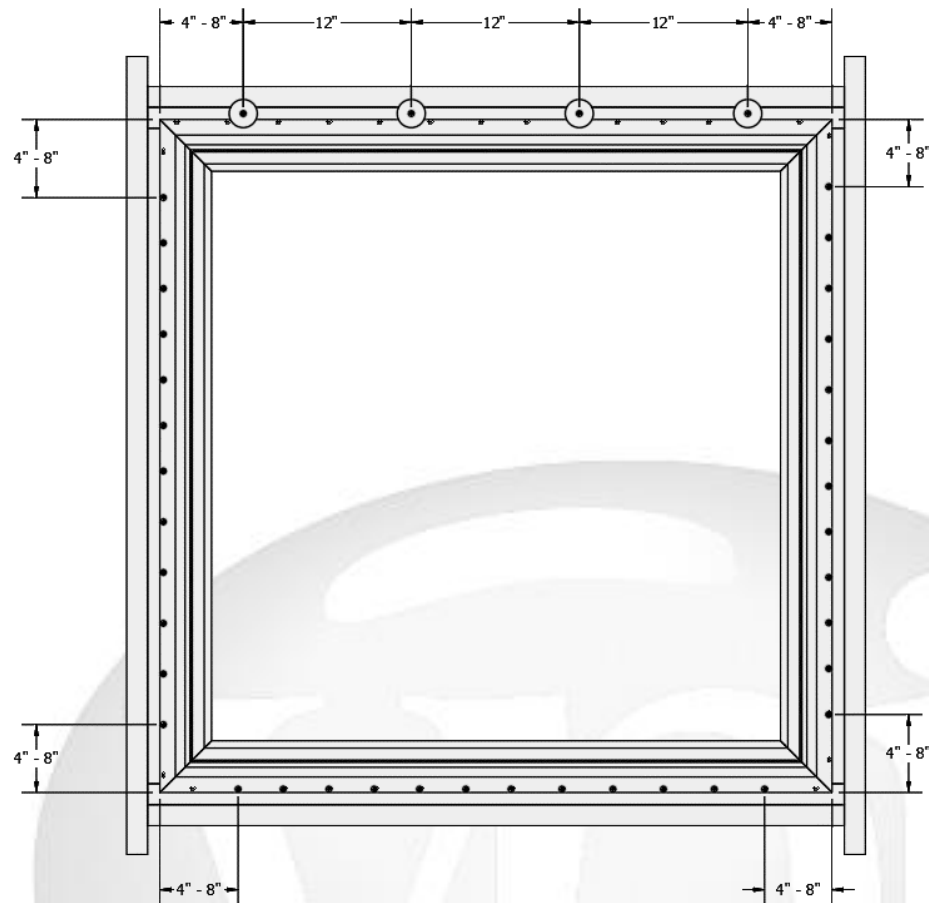

Figure 7: Exterior View with Fastener Locations
- III. Place fasteners in every hole of the nail flange along jamb and sill beginning 4"-8" from welded corners. (See Figure 7)